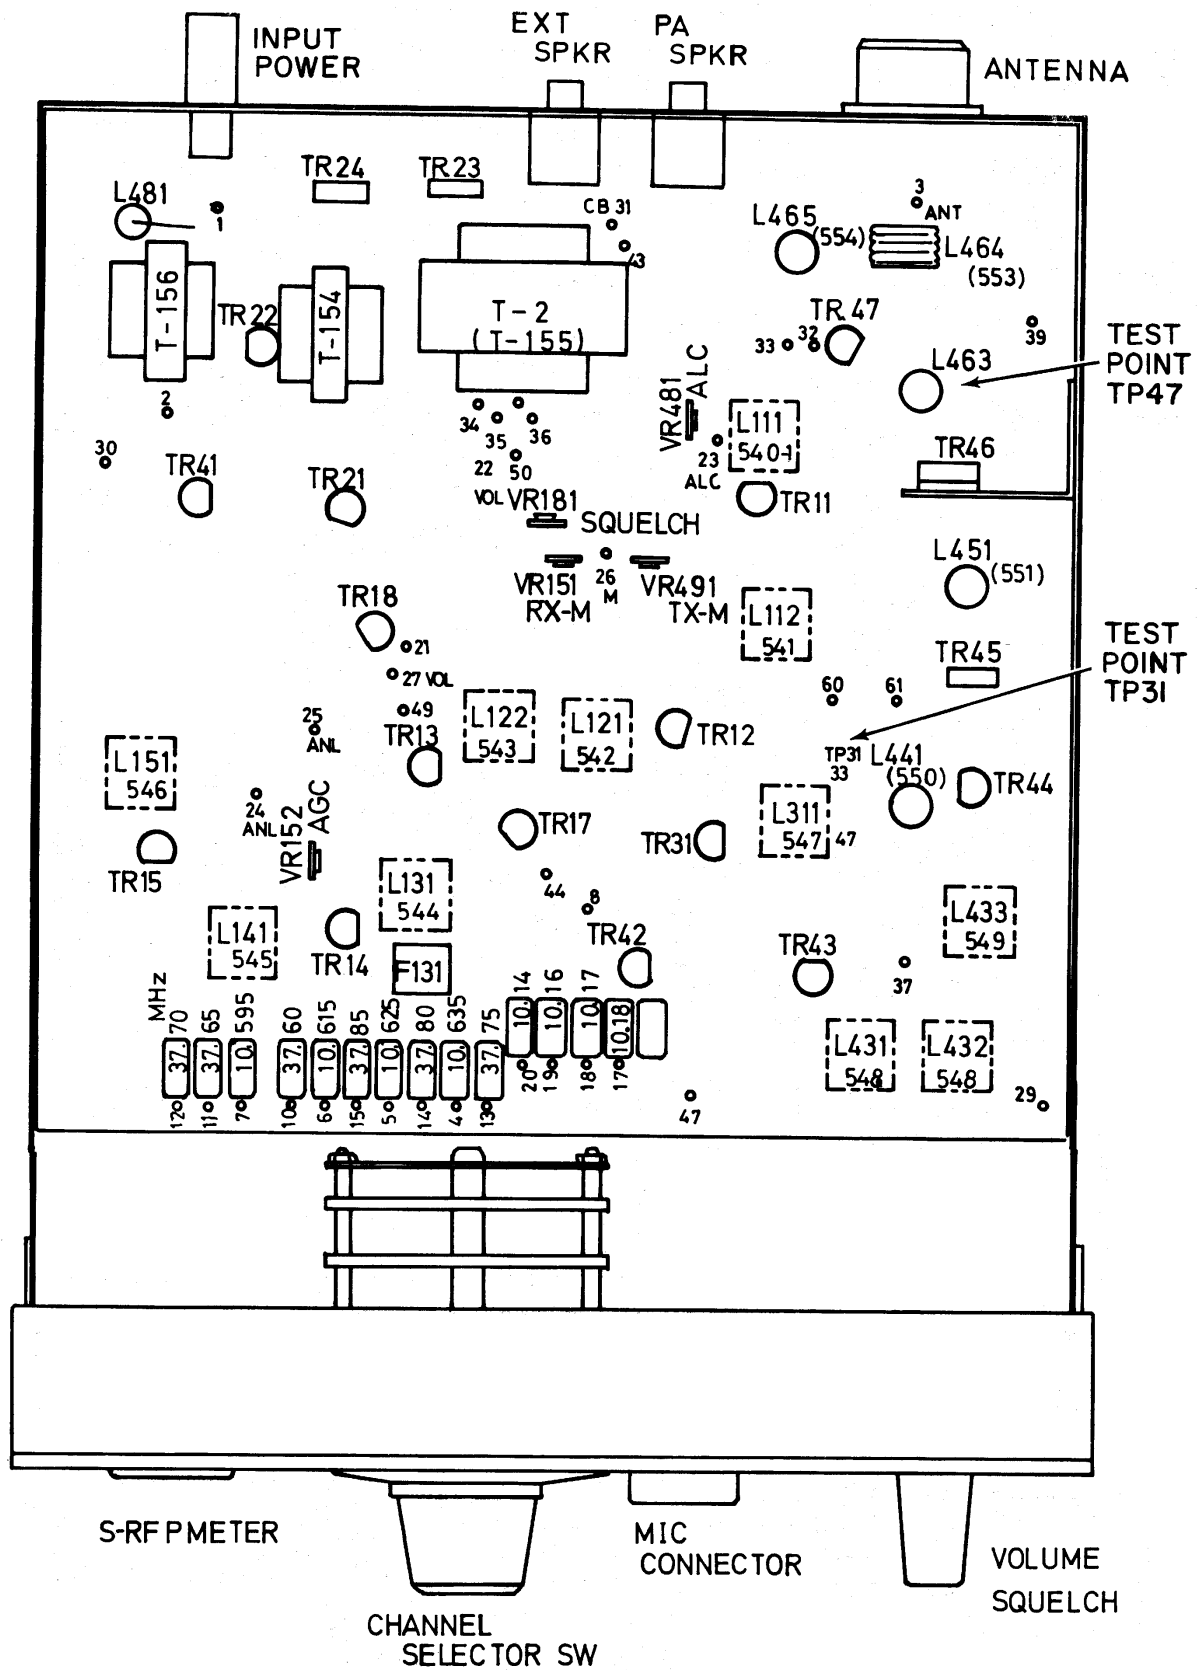

Figure 2 – Top View of 14T100
1. Open up the jumper between "a" and "b" of TP47 (Located next to L463 and L462 in TR46 output) See Figures 2 and 3.